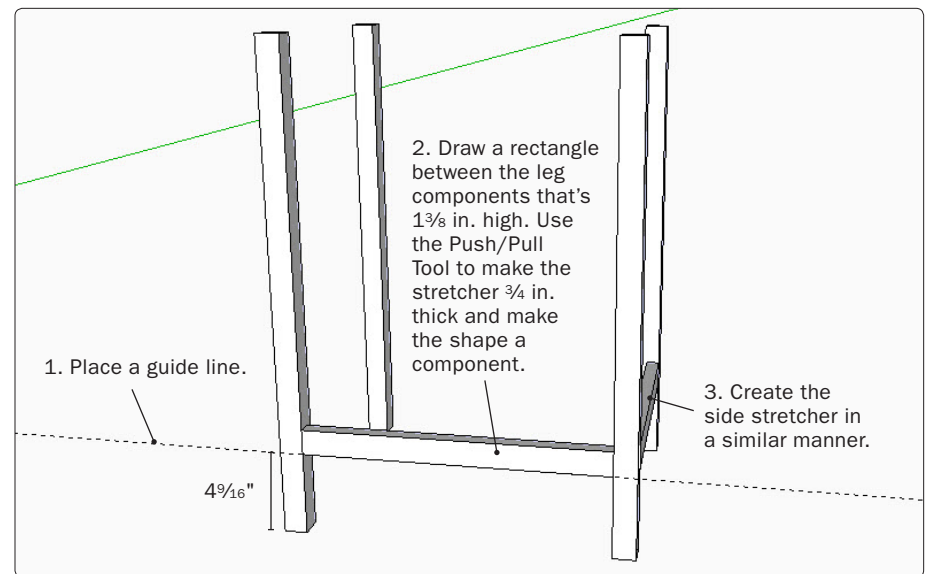

Figure 6. Rough out the lower stretchers.
Step 4 Use the Tape Measure Tool to draw a guide line 4 9/16 in. from the bottom of a leg to locate the bottom of the lower stretcher. Beginning at that point, use the Line Tool to draw the lower front stretcher in position between the legs. Draw the front face of the stretcher, then use the Push/Pull Tool to give it the proper thickness. (Do not select and edit the leg component while making the stretcher.) Draw a left-to-right Selection Box around the stretcher, right-click, choose Make Component from the pop-up menu, and name the component. Follow the same steps to draw in one side stretcher (Figure 6).